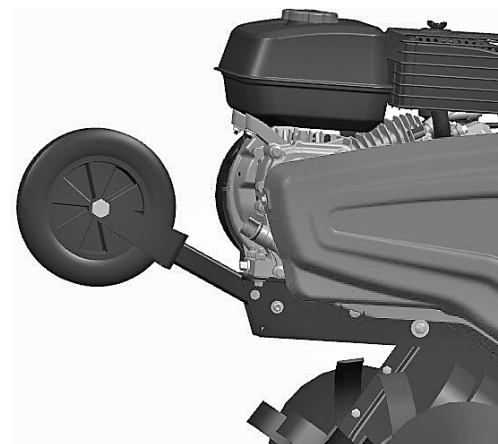

Figure 16
- Adjust front wheel of tiller to the state shown in Fig. 16 when it is going to till the field.